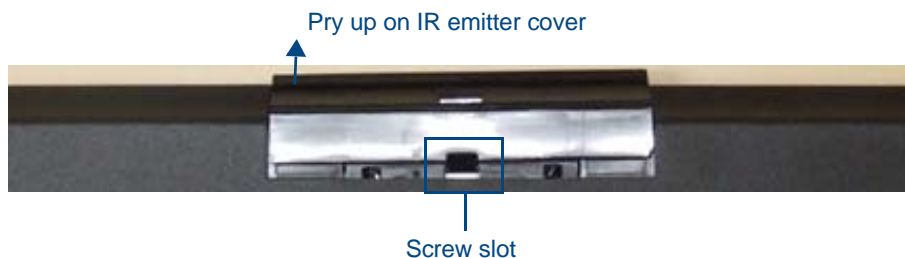

FIG. 113 IR emitter cover removal
2. Place the device face-down on a surface that will not scratch the unit and gently pry up the IR emitter cover. This will usually be easier to do from the left side of the cover (FIG. 113).